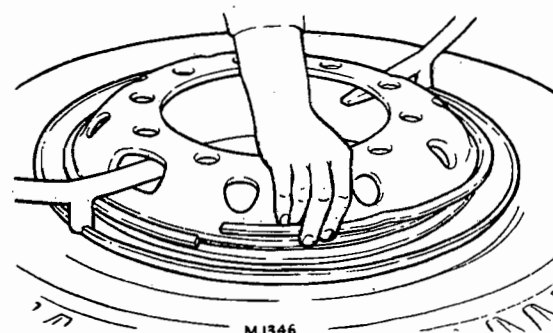

FIG. 8. FITTING LOCK RING
8. Place the side flange and locking ring in position. Using levers, Dunlop TL/5A and TL/6A or, Goodyear 3BT3, depress the flange so that the locking ring may be snapped into its groove. See Fig. 8.